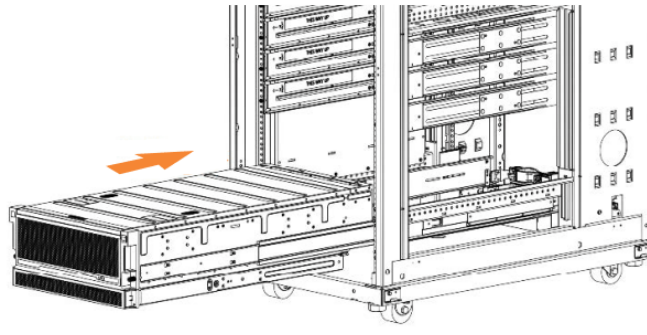

Figure 55. Example installation of the enclosure in the rack
- Install the expansion enclosure in the lowest position in the rack. Figure 55 on page 91 shows an example.